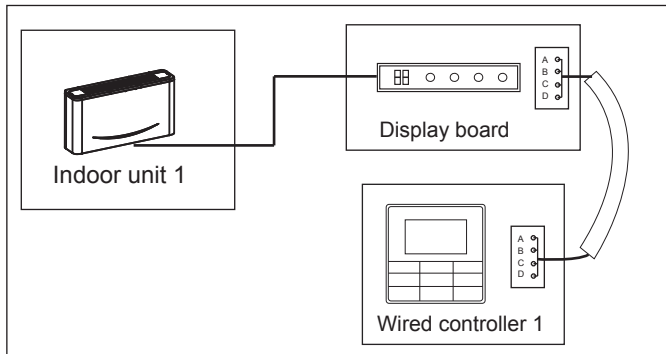

Figure 6.9
- Use 1 wired controller to control 1 indoor unit (see Figure 6.9).